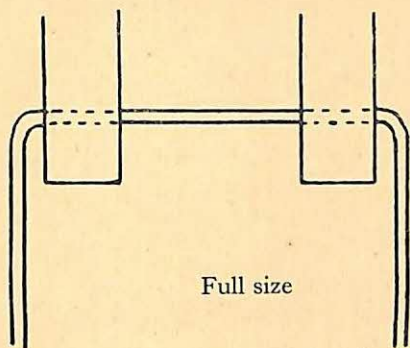

Fig. 1
2. The legs must be glued and nailed in position, but before fixing hind legs bore a hole in both hooves to take the wire which forms the hinge. These holes should be in line, so that the wire can be inserted without bending. When in place bend over the ends at right angles (see Fig. 1), ready for insertion in stand. Test for free movement on wire before finally fixing hind legs on body.